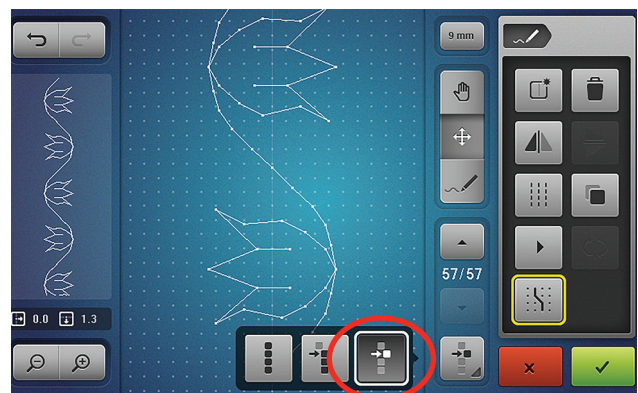

Fig. 33
14. Tap the Move Points icon and move individual points to make one of the flowers wider than 9 mm (Fig. 33).